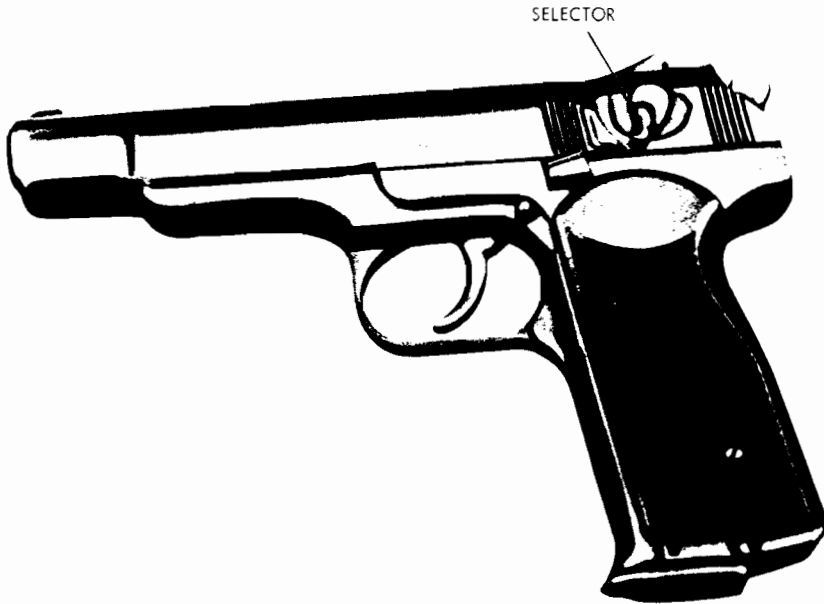

Figure 8. 9-mm Stechkin machine pistol (APS).
Machine pistols resemble conventional pistols, but have one major distinguishing characteristic--a selective-fire option: i. e., they can be fired either fully or semiautomatically. In addition, the pistols usually have large-capacity magazines and some type of a shoulder brace or stock to aid in accurate long-range firing. The Soviet Stechkin machine pistol (fig. 8) was issued in limited numbers and, while it is now obsolete, it might be in use by special units such as border guards and security police.
a. The selector (fig. 8) must be positioned for the type of fire desired; at "0 I" for semiautomatic fire, at "ABT" for full-automatic fire, or at "III" for safe.